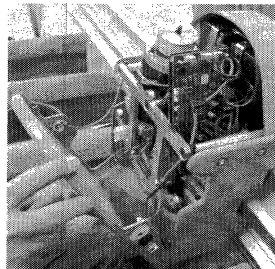

Fig. 5
- e. Pull front cover away from carriage. To provide full access to wiring harness, disconnect one sensor connector to allow carriage to hang to one side (Fig. 5).